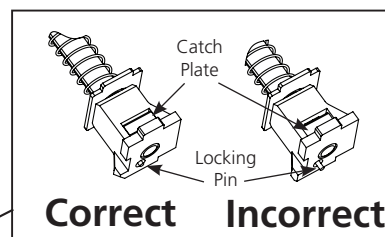

Figure 4
ML2000 Series Mortise Locks are easily field reversible for installation on doors of any hand. Re-handing can be done quickly and easily without opening the lock case. The following instructions apply to latchbolt assemblies that contain a Locking Pin as shown in Figure 4 below. For those assemblies that do not contain a Locking Pin, refer to the ML2000 parts manual (45556) for instructions.
**Note: Make sure catch plate is even with top surface and locking pin is not projected (Figure 4). If not, depress catch plate with screwdriver and repeat step 4.**